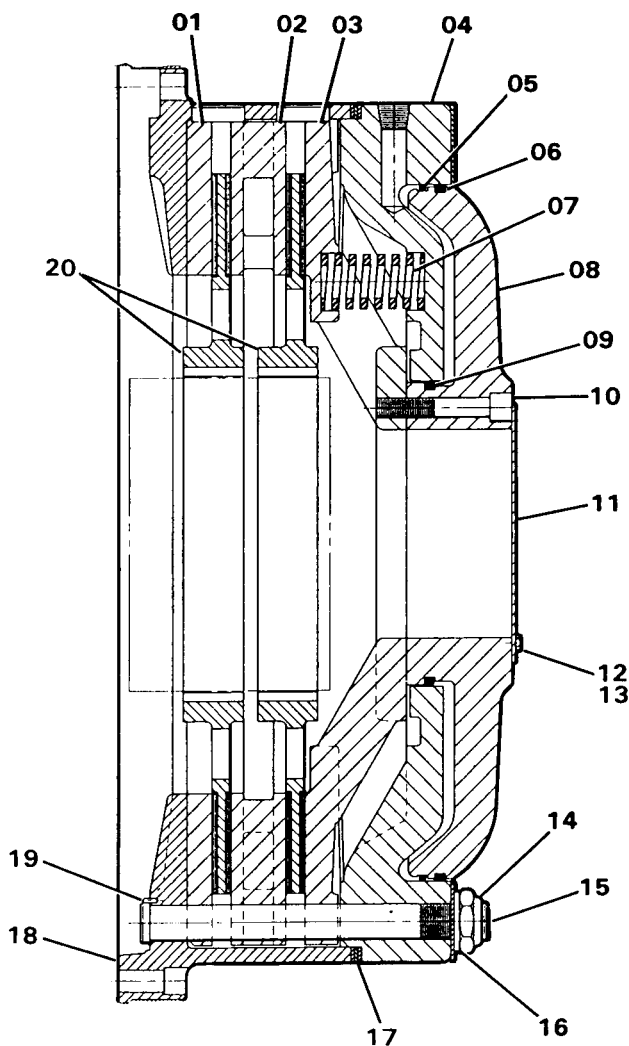

Figure 4-11. Hoist Disc Brake Assembly (15R7)
The hoist brake assembly, as shown in Figure 4-11 is an air released spring set, disc type holding brake. Each hoist brake has two low inertia friction discs spline mounted to a hub that is mounted on each input shaft. When the brake is set, the brake holds the hoist transmission from movement by the brake pressure plate pressing against the discs with spring pressure.
- With the brake released, check for running clearance between the friction surfaces and the adjacent wear surfaces for a minimum total air gap of 0.125 inch (3.175 mm). If total clearance is less, a new 0.125 inch (3.175 mm) shim (17, Figure 4-11) can be added to the present shims.
CYLINDER O-RING REPLACEMENT. To replace the O-rings, refer to Figure 4-11 and proceed as follows:
DISC INSPECTION AND REPLACEMENT. To inspect or replace the brake disc, refer to Figure 4-11 and proceed as follows:
1. Refer to Figure 4-11 and remove as an assembly the cylinder and piston assembly, made up of brake piston (08), cylinder (04), shims (17) and pressure plate (03) from brake drive ring (18) as follows:
- A. Remove capscrews (12), lockwashers (13) and cover plate (11) from piston (08).
- B. Remove the twelve nuts (14) and washers (16) from drive studs (15).
- C. Lift the cylinder and piston assembly from drive ring (18).
ASSEMBLY AND INSTALLATION. To assemble and install the brake assembly, refer to Figure 4-11 and proceed as follows: